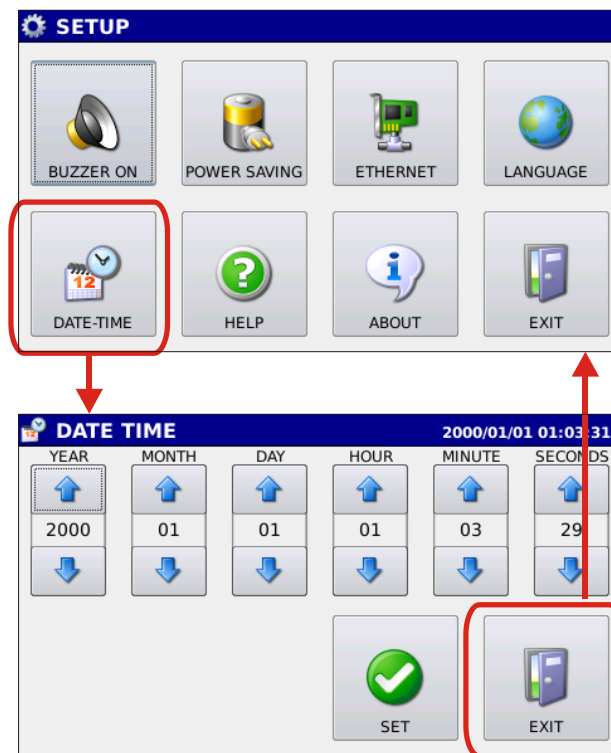

Fig. 6.9: date/time setting window
6.5 DATE-TIME: Setting date and time. By pressing the Date-time button it is possible to access the window for date/time setting (Fig. 6.9).